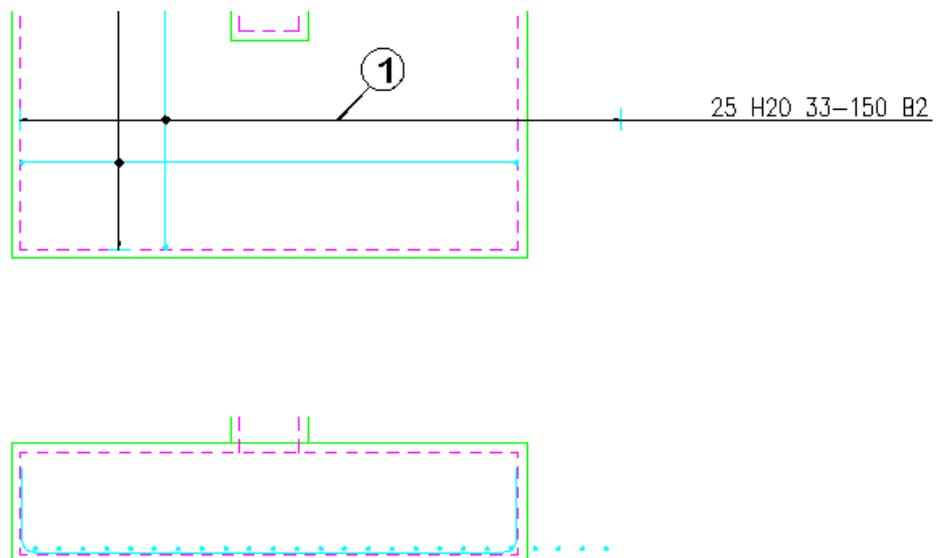

Figure 7.3.9:1 Using Edit Range to edit the range length
- ▶ Make the Viewport on Range Edit Single Indicator (03) current
- ▶ Select RebarCAD → Editing → Edit Range or  or double click on the Range Line as indicated by point 1 on figure 7.3.9:1 below